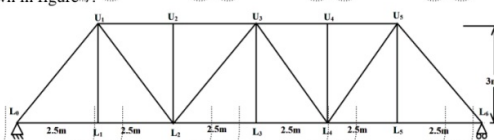

Figure: 7
8. Construct the influence line for a diagonal member U_3L_4 of a warren truss with verticals shown in figure 7. [15]